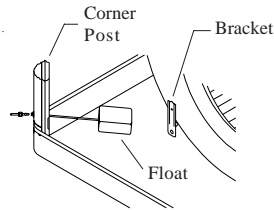
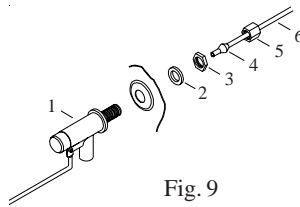

Fig. 8
Fig. 9
- **Install float and attach water line to float.** The float may be installed in either the corner post or bracket (see Fig. 8). Refer to figure 9 for installation instructions. Insert the float (1) thru the hole in the corner post or bracket. Install the washer (2) and nut (3). Tighten to keep the float from turning. Place the nut (5) and ferrule (4) on the water supply line. Connect to float fitting and tighten until water tight.